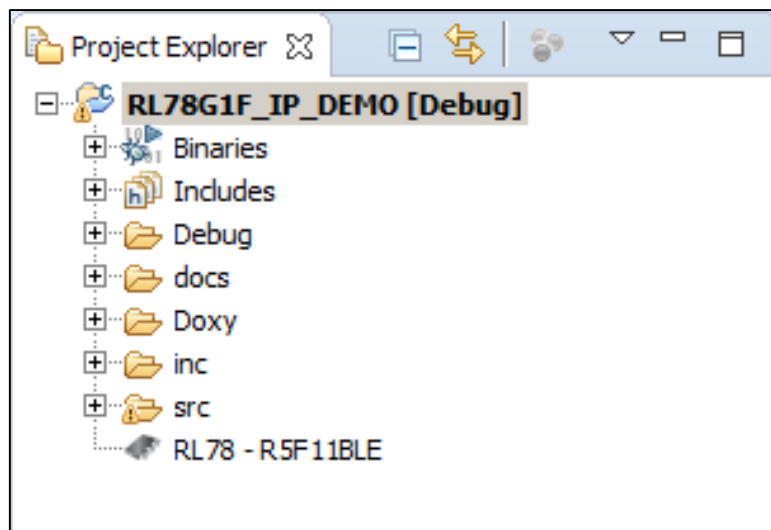

Figure 16: Project Explorer Panel after Import
- 6) Project should look like Figure 16: